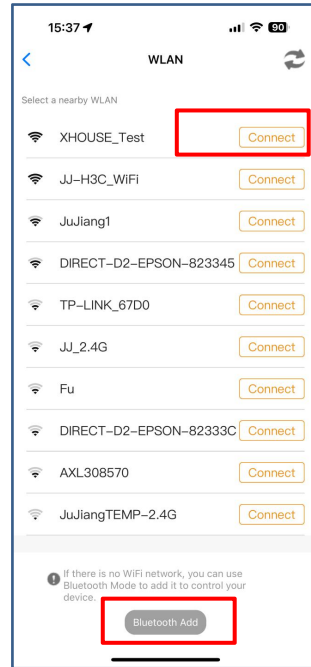
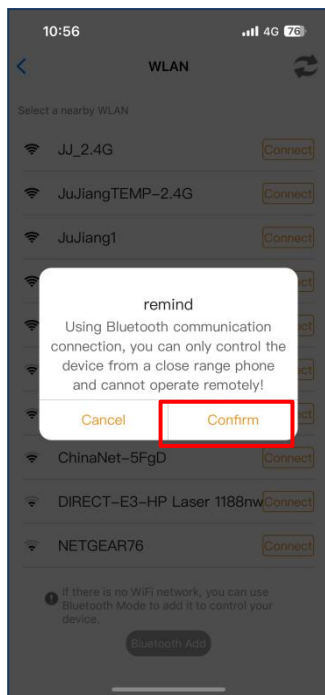

Fig 3
Fig 4
Step 2. Select the Wi-Fi, click the “Connect” and enter the password.(Fig 3)
Step 4. Bluetooth Add: If the WiFi network is failure, you can choose the Bluetooth Add. When using Bluetooth mode control the device, the mobile app must be closed to the device within Bluetooth range for about 10m to connect and control it. (Fig 3 and Fig 4).